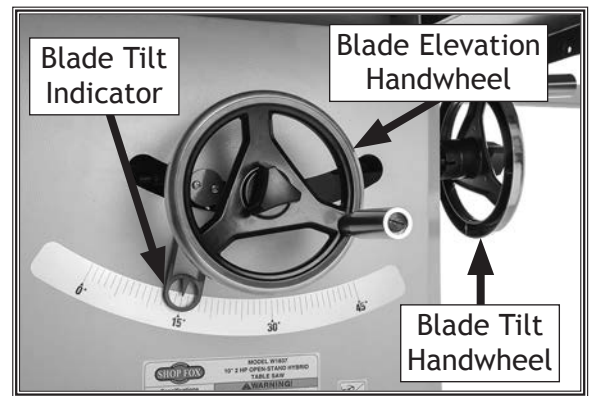

Figure 16. Blade tilt indicator and angle scale.
6. Turn blade tilt handwheel until blade tilt indicator points to 15° on blade angle scale (see **Figure 16**).